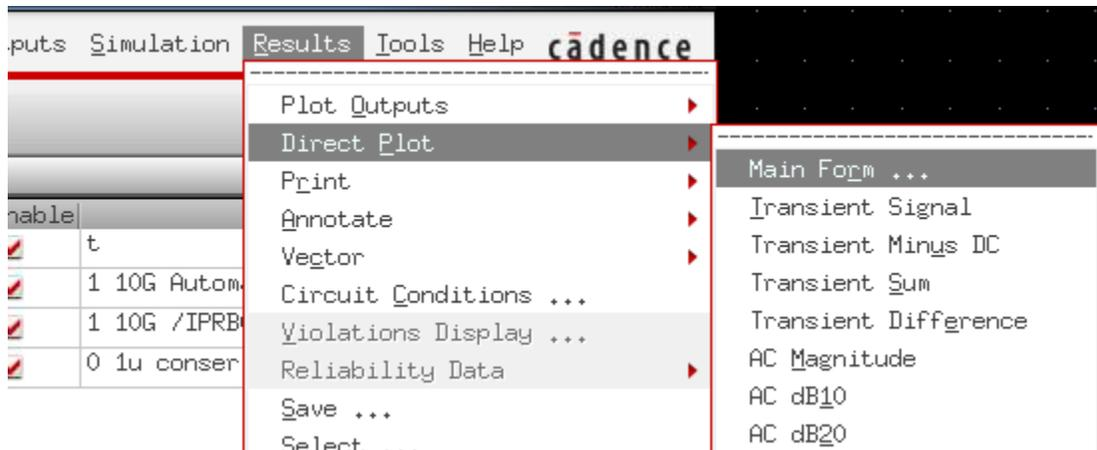

Fig. 5. “stb” results
- g. To show the results, in the “Analog Design Environment”, choose “Results”->“Direct Plot”->“Main Form...”. In the new window, choose “stb” and you can see the stability summaries. This is shown in Fig. 5.